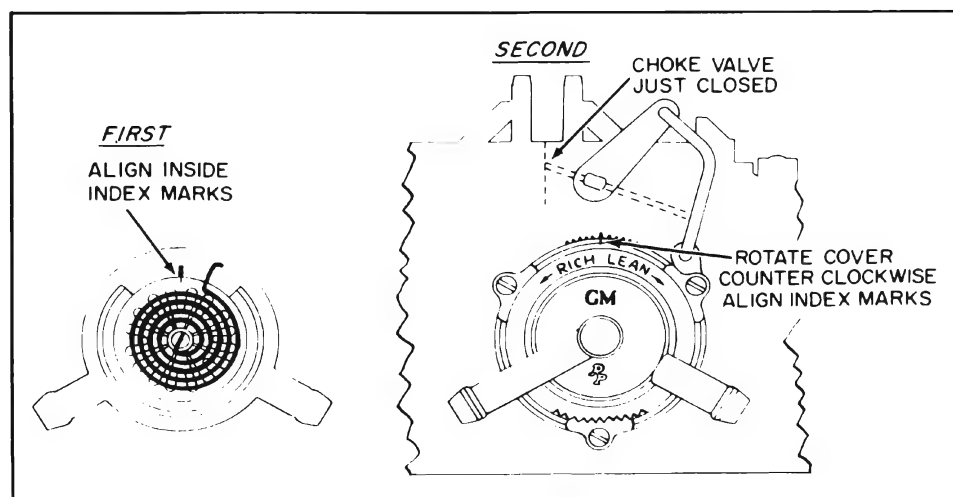

Figure 3-70—Choke Coil Adjustment-300 Engine
b. Before tightening the large outer to inner cover retaining screw, align index marks inside inner cover to the index mark on the outer cover. Then tighten the large screw securely. This is very important for proper choke indexing. See Figure 3-70.